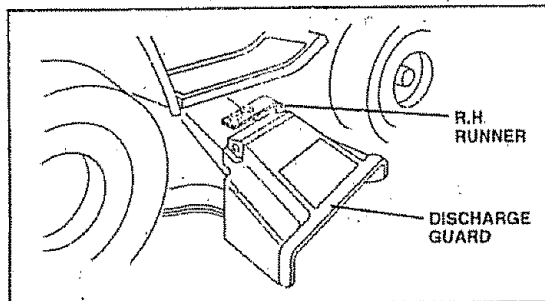

FIG. 8
- Use the runner on the right hand side of mower as a guide. The blade cuts approximately an inch outside the runner (See Fig. 8)